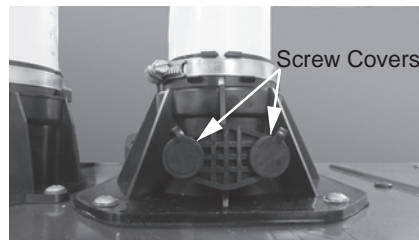

Figure 60 - Emission port location
- 3 Locate the emission port cap at the outlet exhaust port on the water heater as shown in Figure 60.